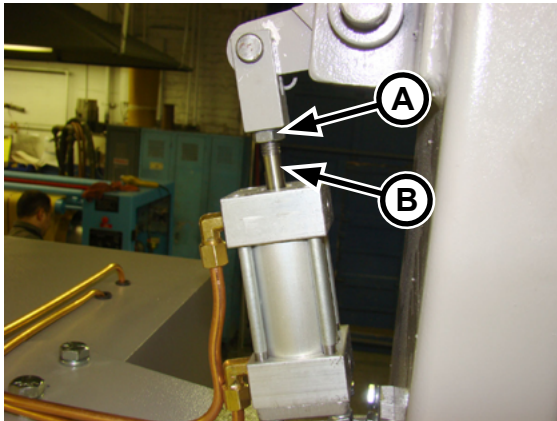

Figure 7-30: Lift/safety air cylinder mechanical adjustment.
3. Loosen the lift/safety air cylinder rod jam nut (Figure 7-30, A).
4. Turn the air cylinder rod (Figure 7-30, B) clockwise one or two turns to lengthen its stroke.